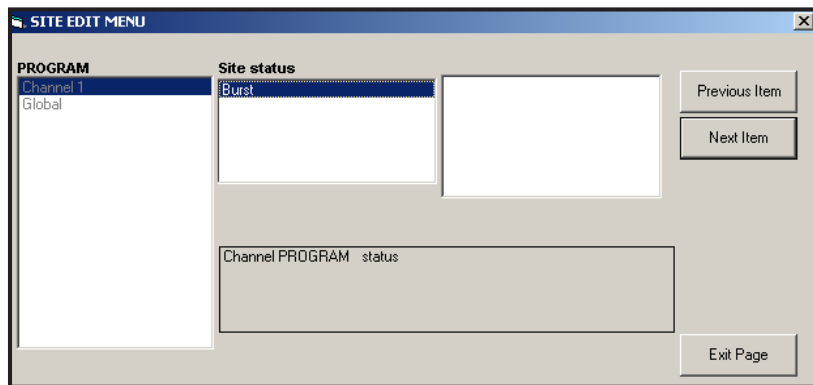

Figure 44: The Status Option in the Channel Menu
2. Highlight and double-click on the Status option in the center pane. The window now appears similar to Figure 44.